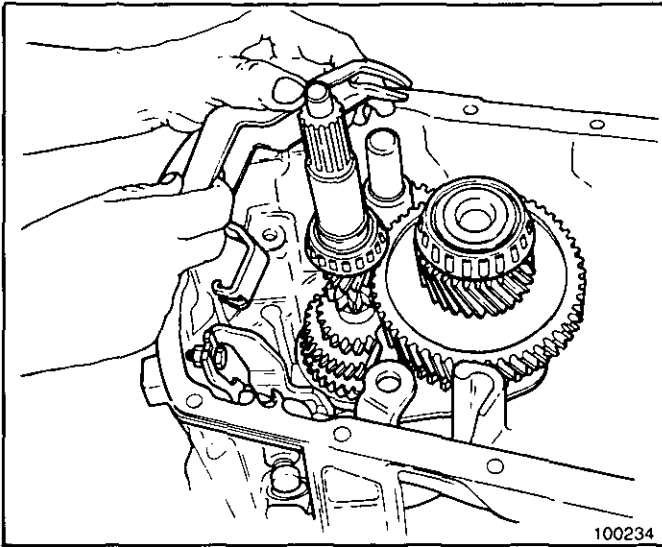

Figure 11 Removing Reverse Shift Fork
3. Remove the reverse shift fork shown in Figure 11 by disengaging from the guide pin and interlock bracket.